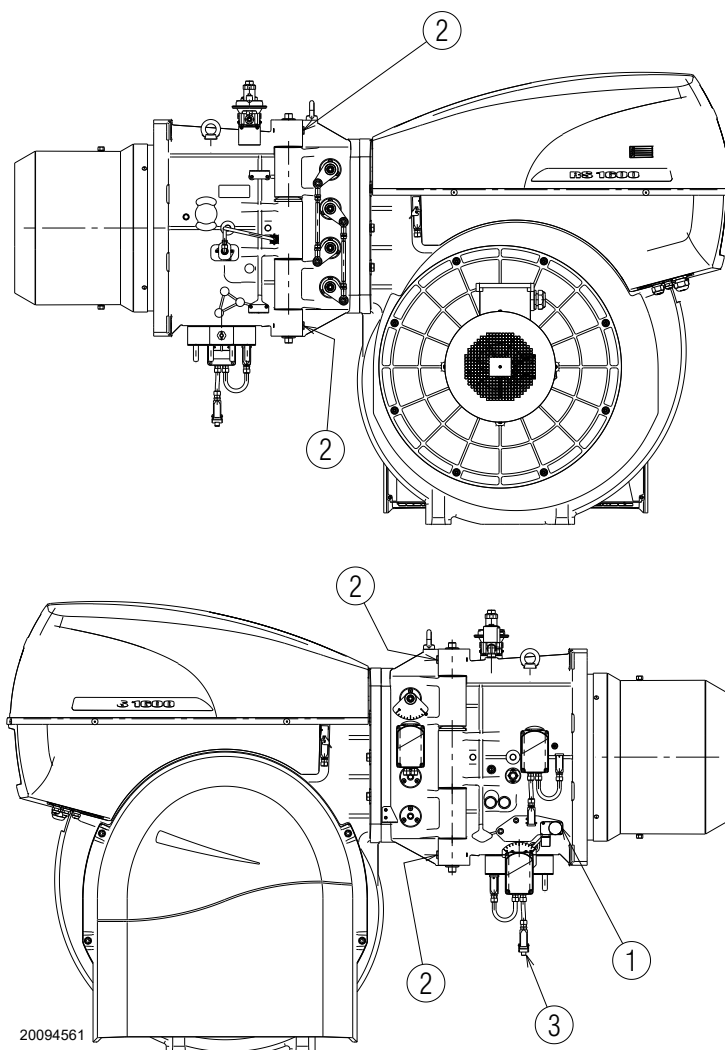

Fig. 36
- Remove the gas pressure switch connection 1)(Fig. 36).